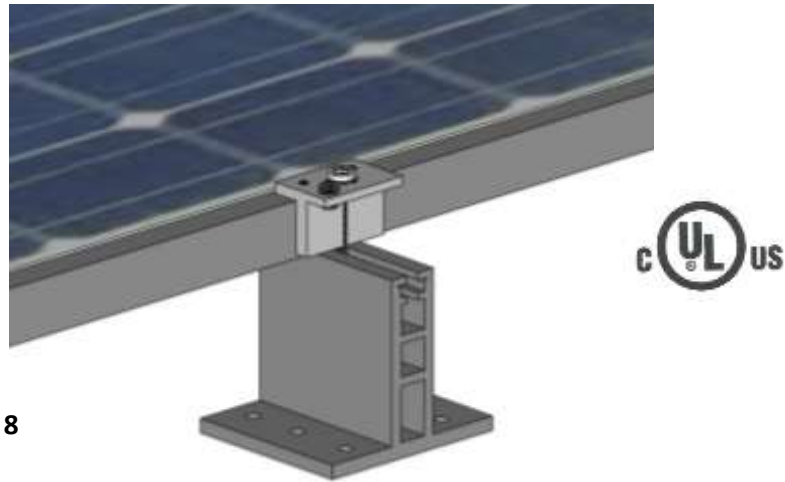
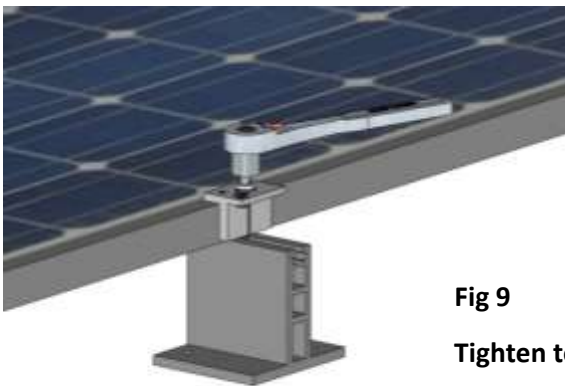

Fig 8
Fig 9
- Slide a Leading Edge T-clamp assembly with bolts and kept nuts through the top groove of each of the mounting feet opposite the outside edge of the module. Insure that these are snug to the side of the first module and secure them with the leading side (the thicker flange with 2 set screws) of the T-clamp against the module (fig 8). Tighten each T-clamp to 8ft.lbs. so that the two sharp-point set screws bight into the frame, piercing the anodized coating and securing the module tight against the mounting feet (figs 9 & 10).